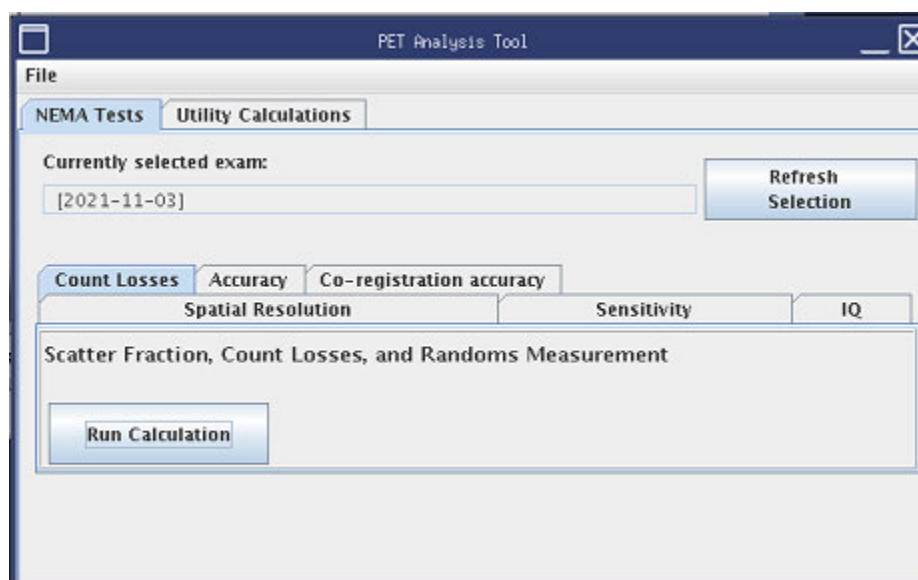

Figure 5.6: PET Analysis Tool - Count Losses Tab Selected
5. Refer to Figure 5.6. Click the COUNT LOSSES tab to display its button.
9. Refer to Figure 5.6. Click RUN CALCULATION.